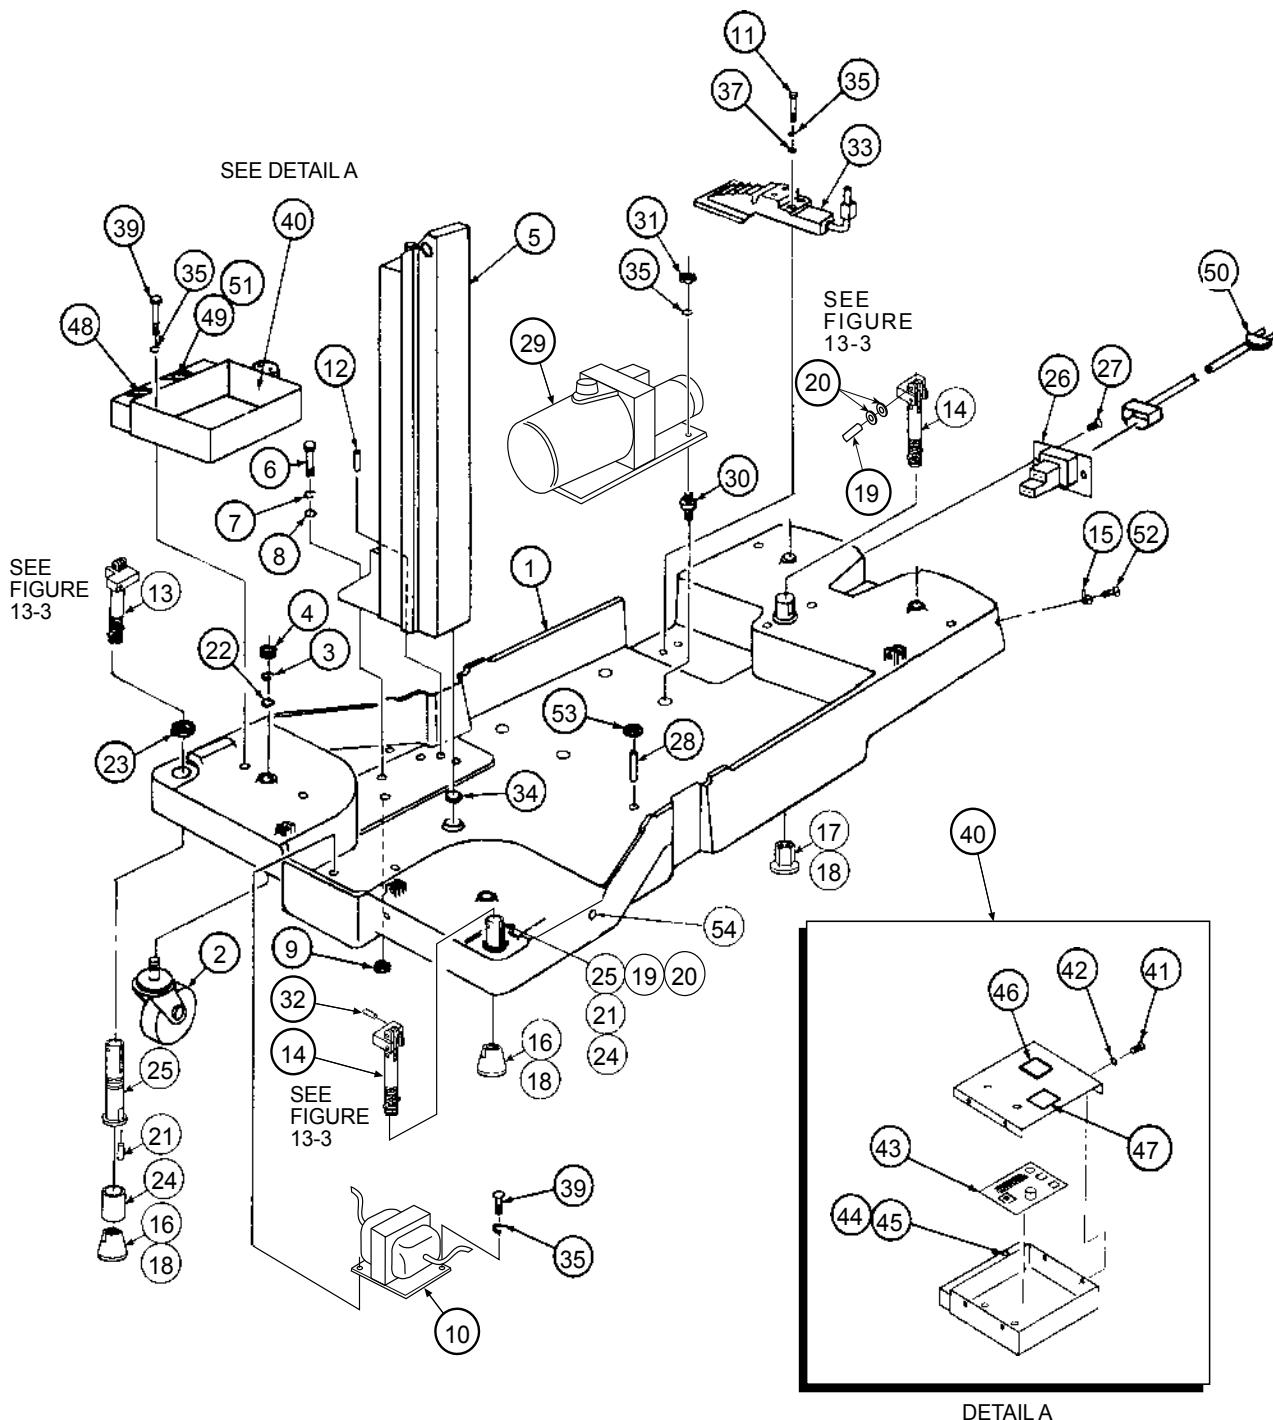

FIGURE 13-4. Table Base Assembly (Part 3 of 3)
* Item #'s 37 - 43 can be replaced as a complete assembly by ordering P-93908-634 (left-hand shaft and link assembly) or P-93908-635 (right-hand shaft and link assembly). See Figure 13-4, items 13 & 14 for a pictorial.